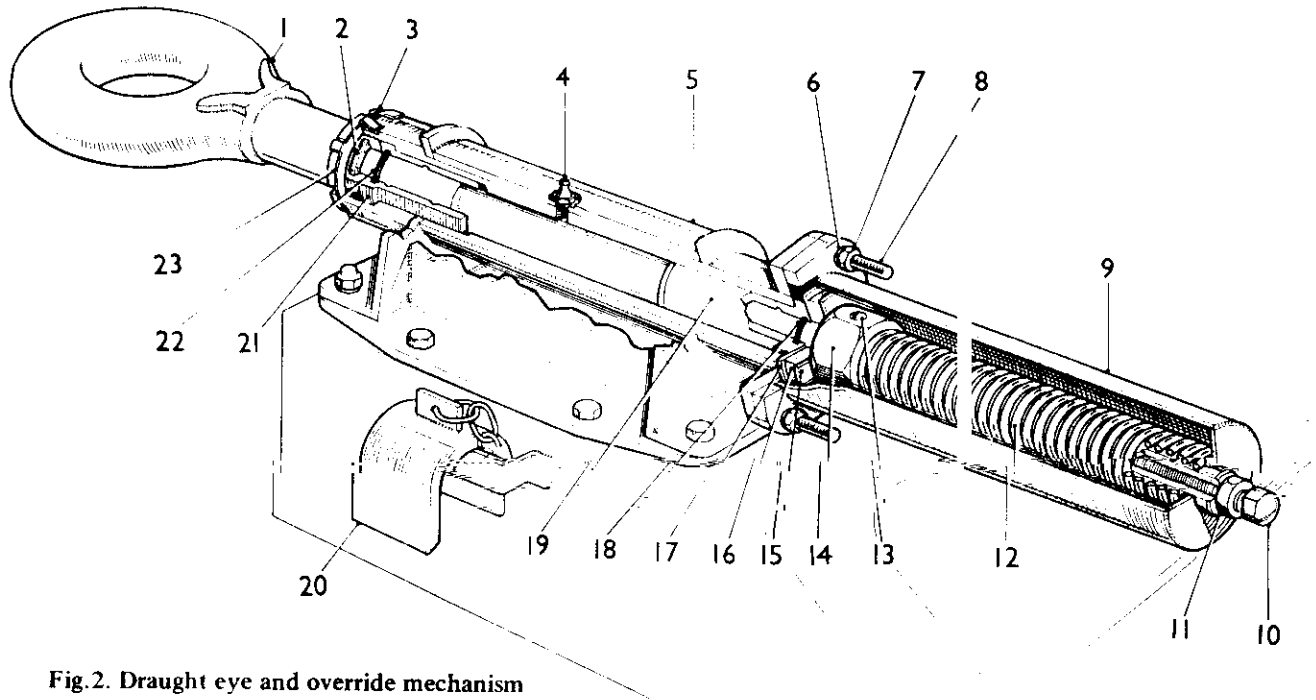

Fig.2. Draught eye and override mechanism
3. The draught eye is mounted on top of the forward end of the drawbar and consists of a spring loaded draught eye and shaft (Fig. 2 (1)) operating in two bushes (19 and 21), which are mounted in a bracket assembly (5). The bracket assembly is charged with grease through a nipple (4) and 'O' rings (18 and 22) in the bushes and a wiper (2) in the cap (3) prevent leakage.
5. A reversing stop (20), normally slotted in a clip on the left hand side of the drawbar and attached to the trailer by a chain, must be positioned over the exposed part of the draught eye shaft to lock the mechanism when reversing the trailer.
17. The draught eye (Fig. 2.) should be examined and lubricated at regular intervals as follows:
- Apply two strokes of a grease gun to the nipple (4).